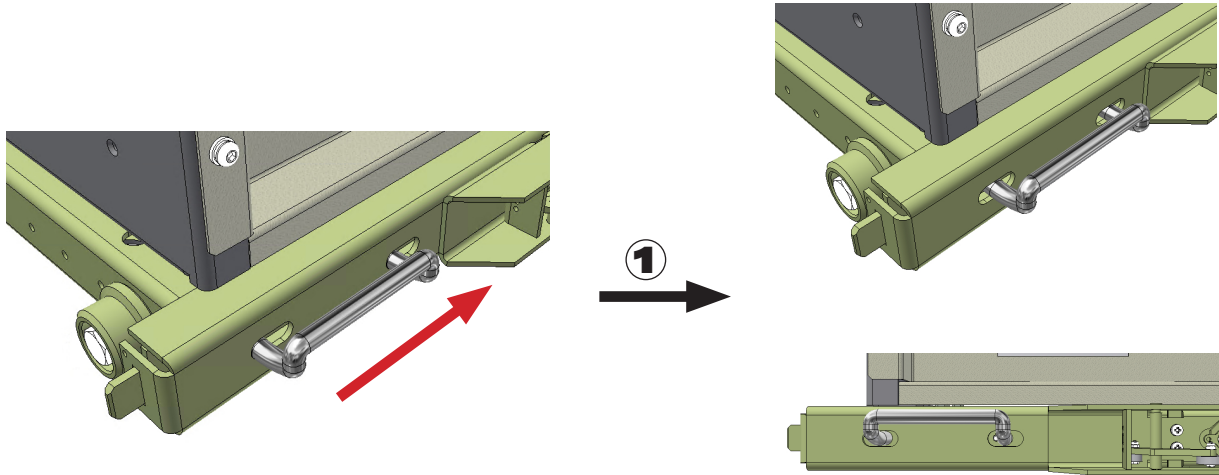

Figure 54
1. Pull the handle of the draw-out cassette to the middle position (**Figure 54**)